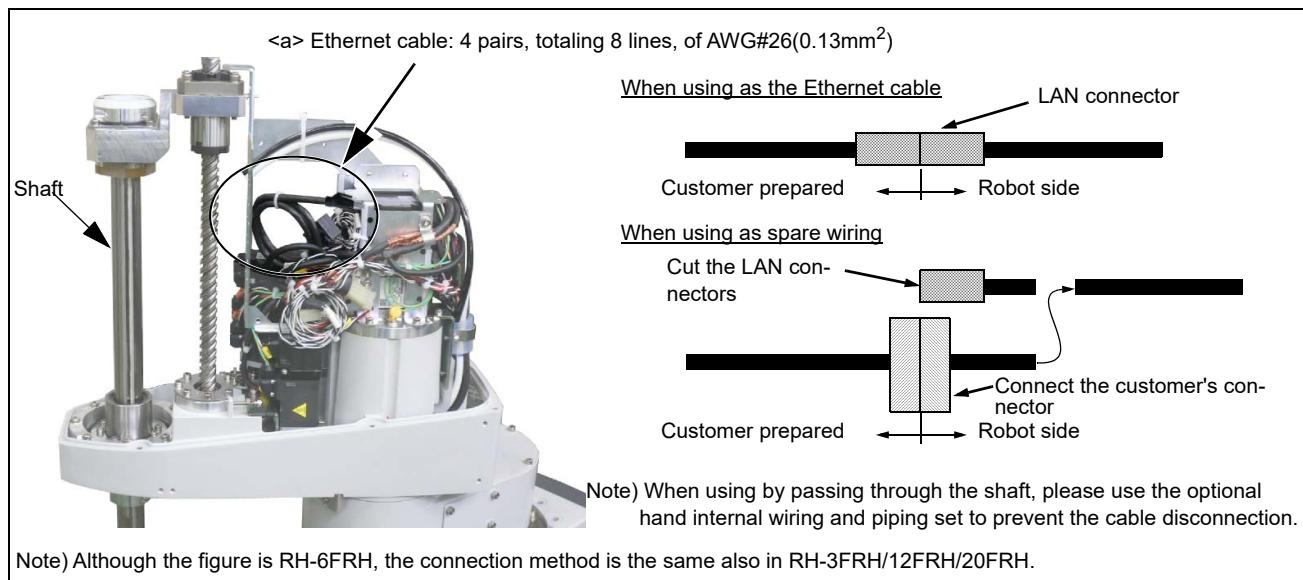

Fig.2-12 : Pulling out the Ethernet cable
- 2) Ethernet cables are located in the positions shown in Fig. 2-12 <a> (coiled and stored).